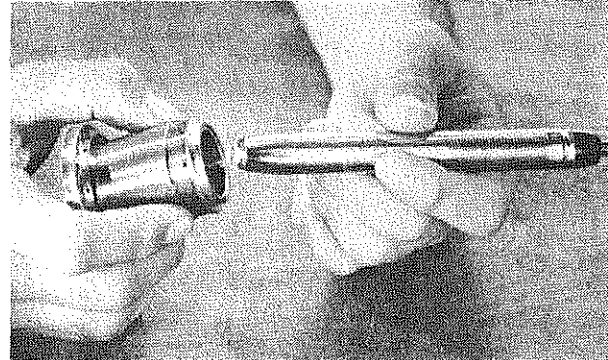

FIG. 16
6. Check all three bearings to make sure the fine air holes have been cleared of all obstructions. This can be accomplished by using a flashlight. Hold flashlight up to bearing and look for light to pass through each hole. See Fig. 16. Another method is by blowing air through each hole. Be sure to check each hole in all three bearings. Each bearing has the following number of air holes: